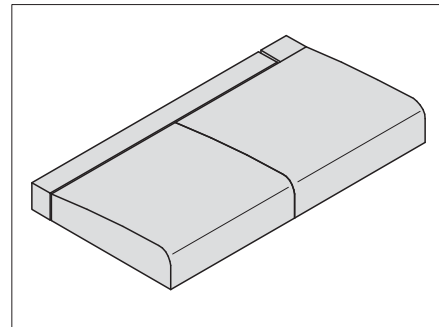
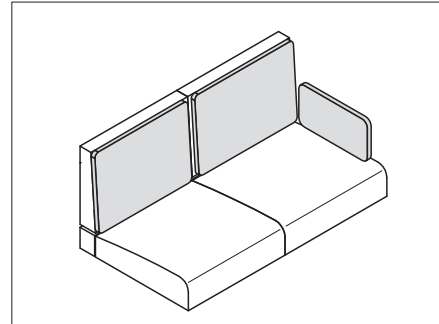

Fig. 189 Positioning seat cushions
Fig. 191 Cushion for back cushions
- Lay on the seat, backrest and additional cushions as shown in Fig. 189 to Fig. 191.